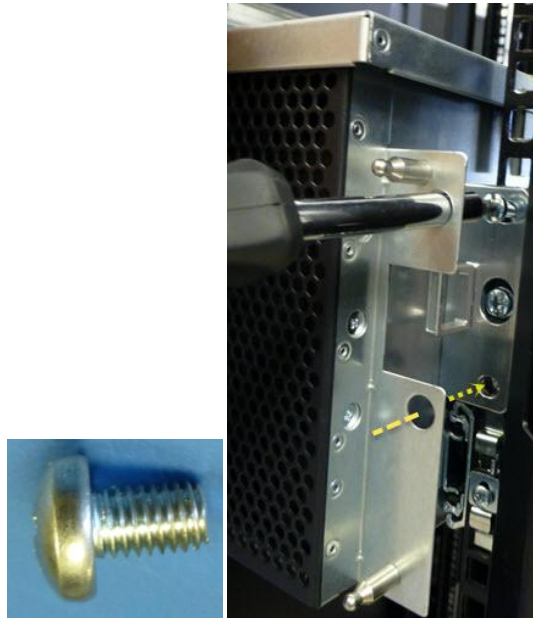

Figure 16. **Mounting Chassis using Pan Screws**
- i. Mount either the left or right side of IceBreaker 4960J chassis using two pan screws provided in accessory kit and screw into nut bar (Figure 16).